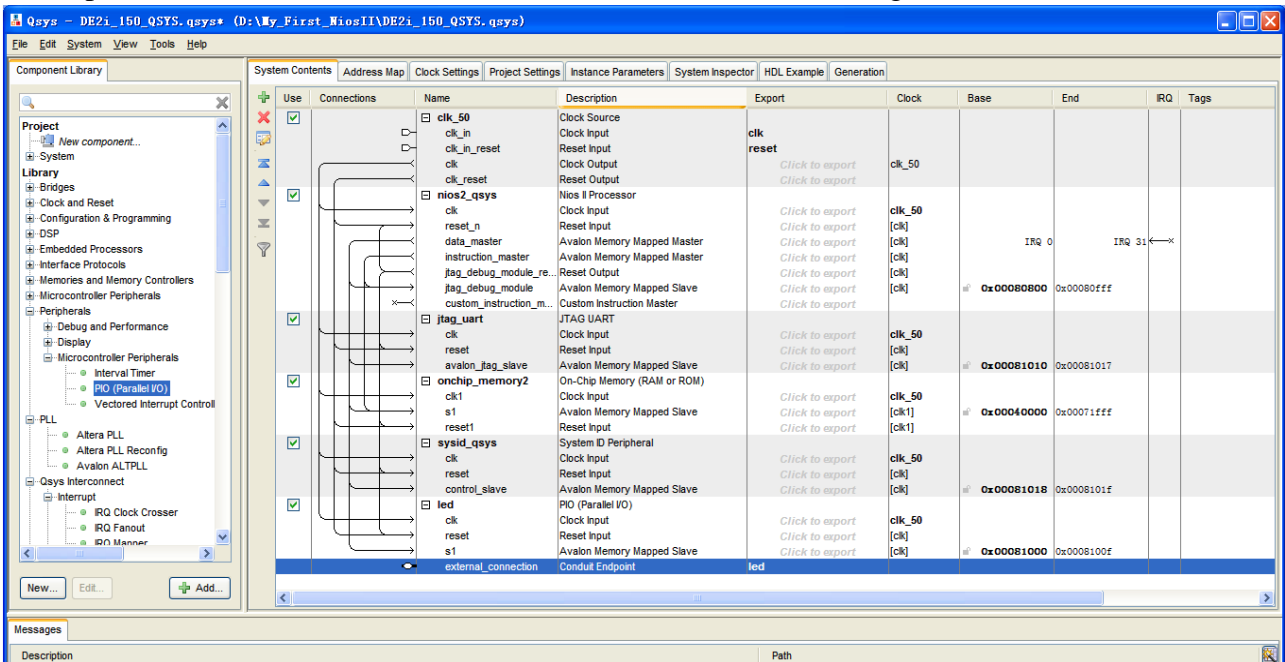

Figure 1-42 Export external\_connection
27. Export **external\_connection** and Rename it to **led** as shown in Figure 1-42.